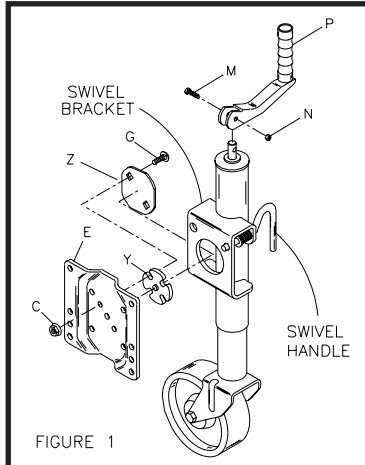

FIGURE 1
Place wheel on a solid surface with jack in upright position. Attach handle (P) with cap screw (M) and lock nut (N). (See Fig. 1)
Tighten lock nut allowing handle to pivot over jack and lock in desired position during towing. Place the two carriage bolts (G) into the square holes of the swivel bracket washer (Z) and position behind swivel bracket of jack (See Fig. 1). Position cloverleaf washer (Y) into the large hole in the swivel bracket with center protrusion of washer facing outward.